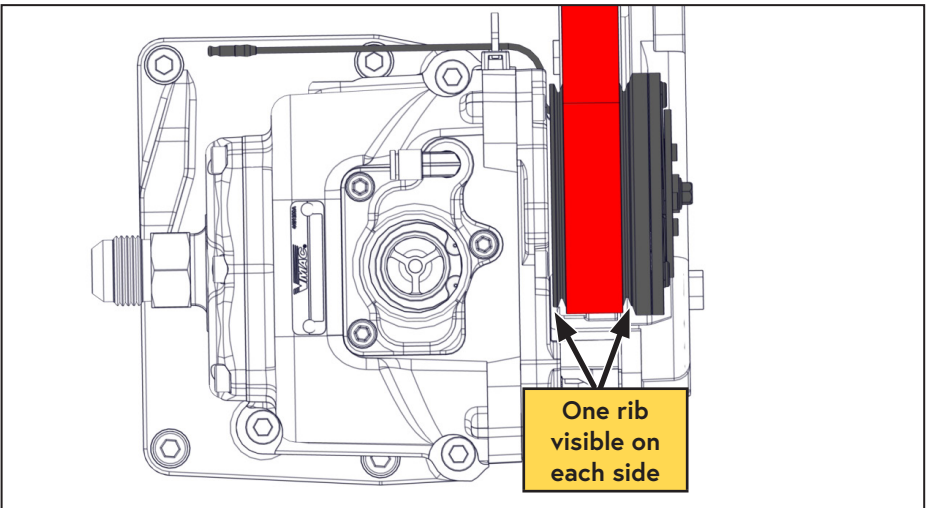

Figure 16 — Align belt on clutch
- Ensure the 6 rib belt is centered on the 8 rib compressor clutch. One clutch rib should be visible on each side of the belt (Figure 16).